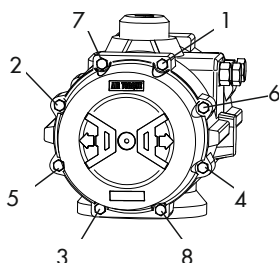
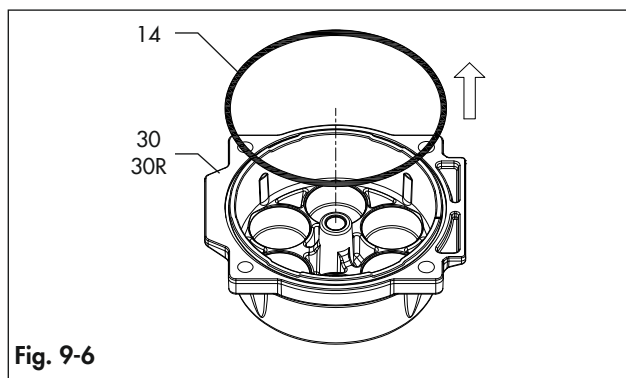

Fig. 9-5
Fig. 9-6
Refer to Fig. 9-1, Fig 9-4 and Fig 9-5.
- ➔ Observe the specified sequence shown in Fig. 9-5.
- Release the springs compression by partially unscrewing each end cap bolt (13) 1 turn at a time as per the sequence shown in Fig. 9-5 for the number of turns indicated in Table 9-2.
- Completely unscrew and remove the end cap bolts (13)
- Remove the end caps (30).
- Remove the spring cartridges (17).
- Remove the o-rings (14). (Fig. 9-6)
- Unscrew completely the end cap bolts (13) as per the sequence shown in the Fig. 9-5.